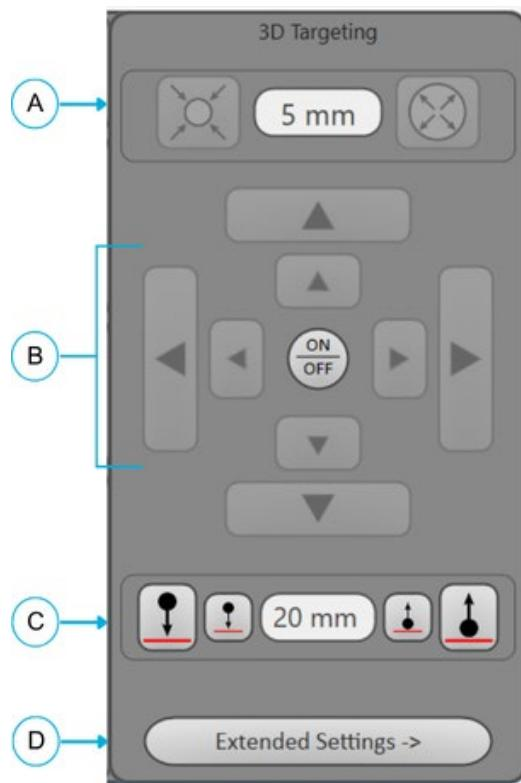

Figure 7-26: 3D Targeting Menu
2. Locate the **3D Targeting** menu on the displayed Settings screen (see **Figure 7-26**).